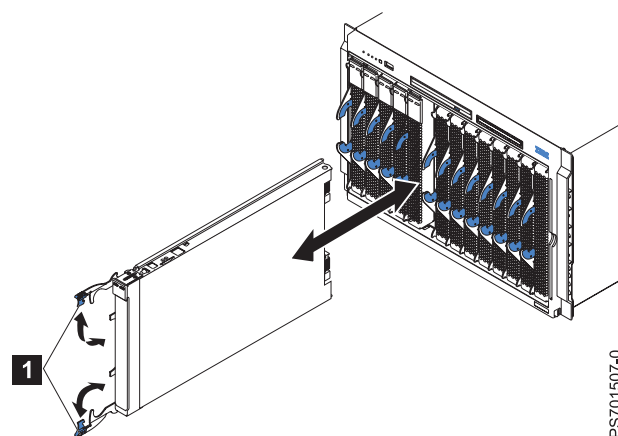

Figure 35. Installing the blade server in a BladeCenter unit
5. Verify that the release handles on the blade server are in the open position (perpendicular to the blade server, as shown in **1** in Figure 35 on page 45).